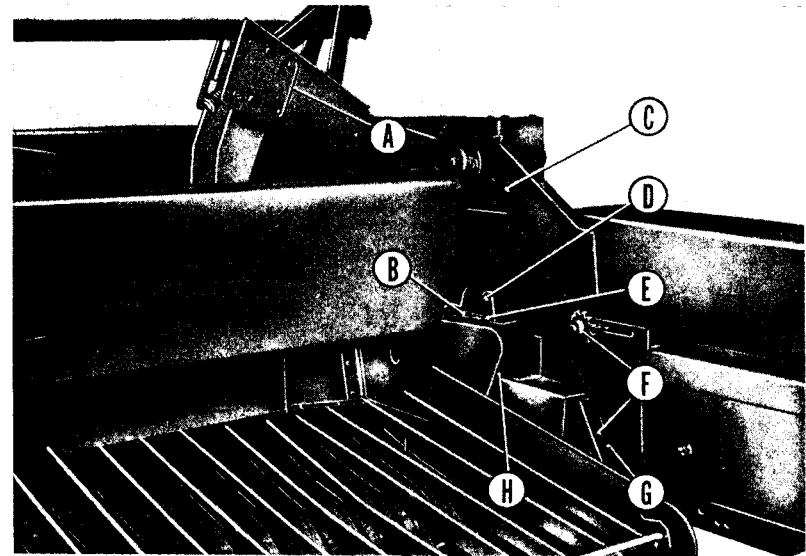

Fig. 6
- Fig. 6
- 1) It is a common fault to lower the pickup too low resulting in soil (sometimes of an abrasive nature) being thrown into the crop. This results in excessive plunger wear. The pickup height should normally be such that the distance between the tip of the tine and the surface of the ground is between 1" and 2". The pickup height may be adjusted by using the proper hole for the stop bolt in the support strap (see fig. 6, item "E").
The wooden packer forks can be positioned in alternative holes, as shown at "A", fig. 6. The packers are normally located in the centre holes.